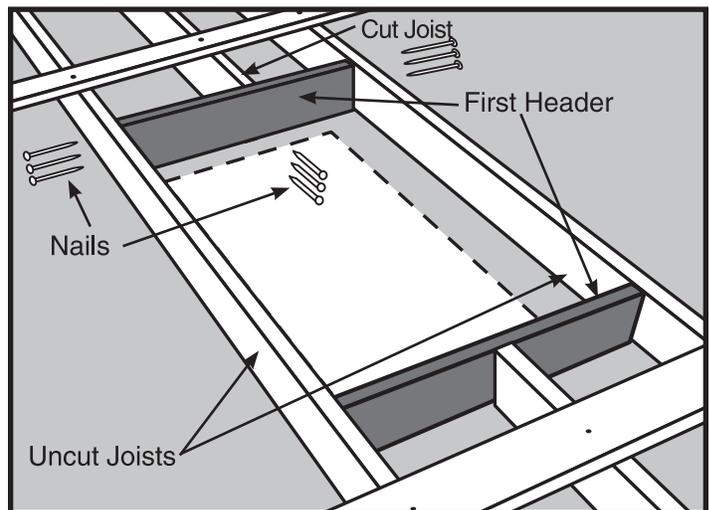

Figure 15
- STEP 3.** Place one of these headers against the end of the cut joist(s) (See Figure 15). It must fit snugly between the uncut joists. Hammer it into position if necessary; if it is more than 1/16” too long, trim it. If it is more than 1/16” too short, cut another piece.
- STEP 4.** Square the header to the uncut joist and nail the header to the end of the cut joist(s) with (3) 16d nails (See Figure 15).
- STEP 5.** Check header for squareness then drive (3) 16d nails through each joist into each end of the header (See Figure 15).